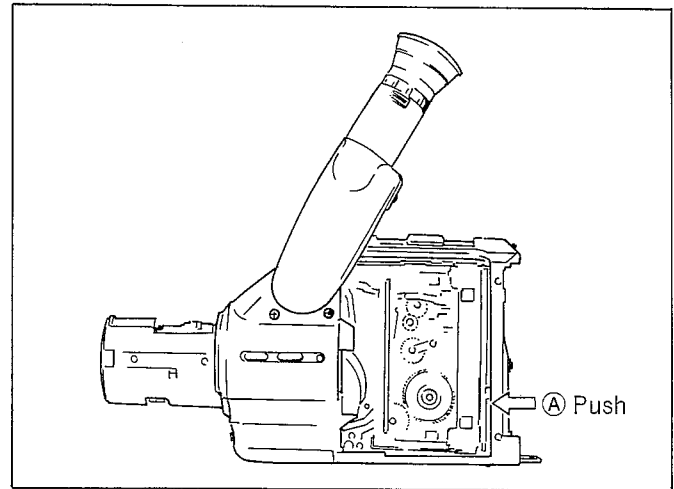

Fig. T10
- (1) In Case that Tape is fully unloaded.
* Remove the cassette cover and push the "A" position as shown in Fig.T10.